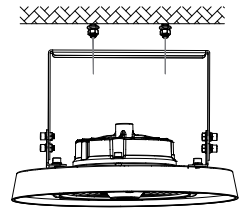
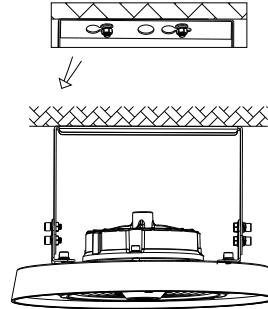

FIGURE 5
FIGURE 6
3. Align the bracket hole with screw hole (Figure 5), and push the fixture to one side (Figure 6) and fix it.